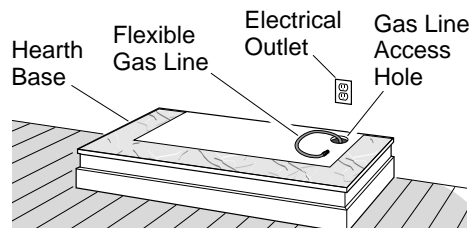

Figure 9 - Placing Hearth Base Accessory Against Wall
- When installing blower, install a properly grounded, 120 volt three-prong electrical outlet at fireplace location if an outlet is not there. If possible, locate outlet so cabinet mantel will cover it when installed (see Figure 9).
- Place hearth base accessory against wall at installation location. Cut an access hole in hearth top to run gas line to fireplace (see Figure 9). Make sure to locate access hole so cabinet mantel will cover it when installed. *Note:* You can secure base to floor using wood screws. Countersink screw heads and putty over.